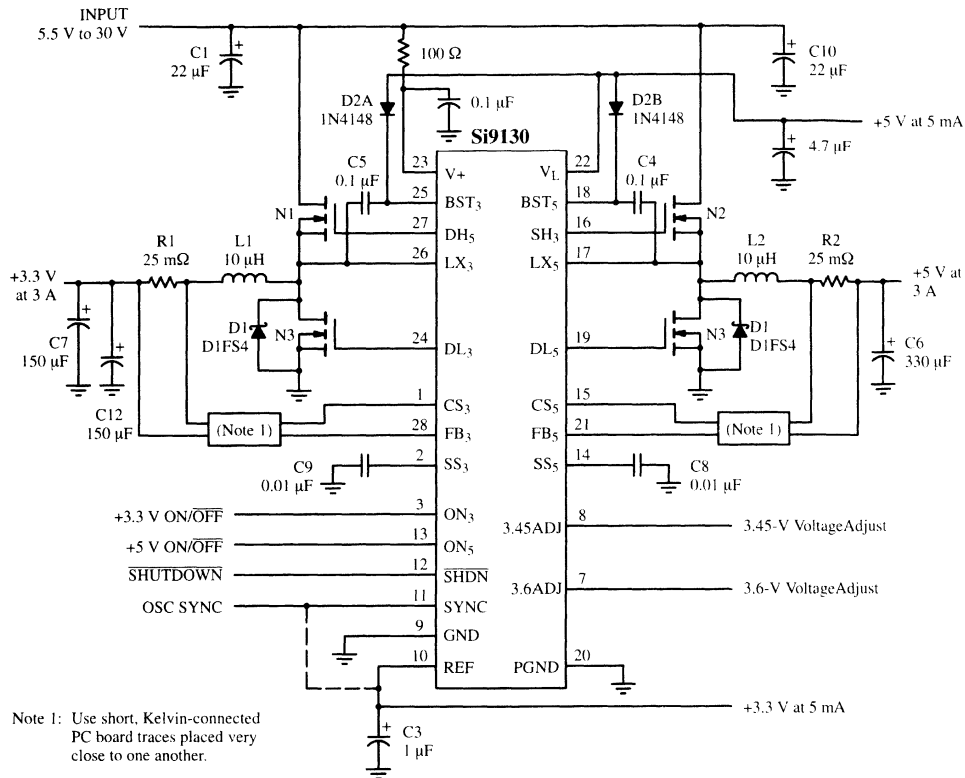
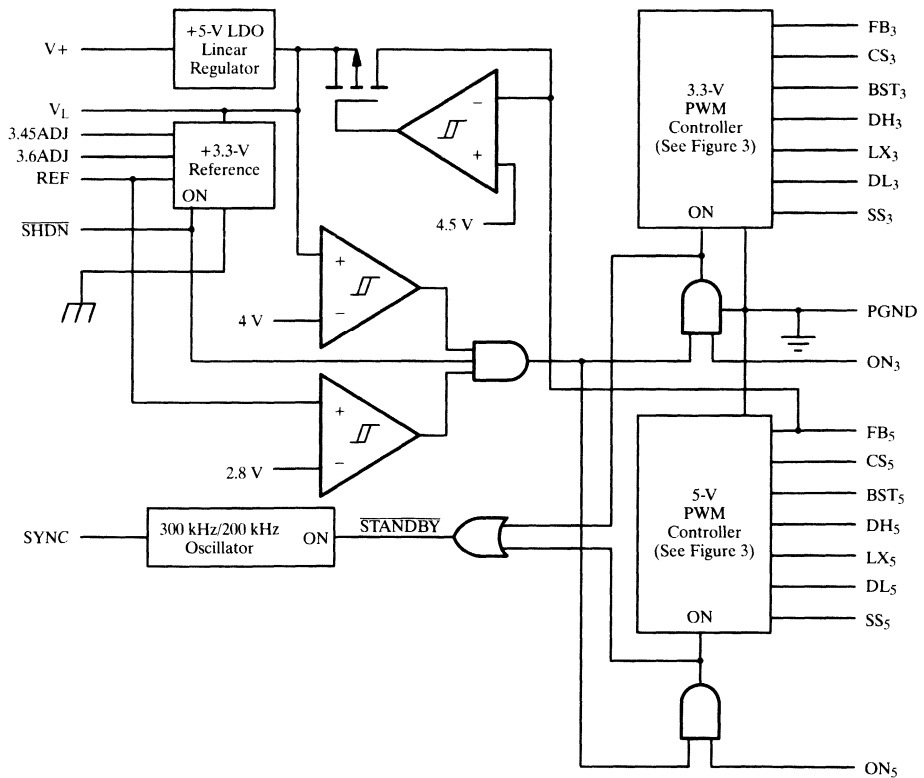

Figure 1. Si9130 Application Circuit
Figure 2. Si9130 Block Diagram
The Si9130 is a dual step-down converter, which takes a 5.5-V to 30-V input and supplies power via two PWM controllers (see Figure 1). These 5-V and 3.3-V supplies run on an optional 300-kHz or 200-kHz internal oscillator, or an external sync signal. Amount of output current is limited by external components, but can deliver greater than 6 A on either supply. As well as these two main Buck controllers, additional loads can be driven from two micropower linear regulators, one 5 V (VL) and the other 3.3 V (REF)—see Figure 2. These supplies are each rated to deliver 5 mA. If the linear regulator circuits fall out of regulation, both Buck controllers are shut down.
The 3.3-V supply is regulated by a current-mode PWM controller in conjunction with several externals: two n-channel MOSFETs, a rectifier, an inductor and output capacitors (see Figure 1). The gate drive supplied by  $DH_3$  needs to be greater than  $V_L$ , so it is provided by the bootstrap circuit consisting of a 100-nF capacitor and diode connected to  $BST_3$ .
The 5-V supply is regulated by a current-mode PWM controller which is nearly the same as the 3.3-V output. The dropout voltage across the 5-V supply, as shown in the schematic in Figure 1, is 400 mV (typ) at 2 A. If the voltage at  $V+$  falls, nearing 5 V, the 5-V supply will lower as well, until the  $V_L$  linear regulator output falls below the 4-V undervoltage lockout threshold. Below this threshold, the 5-V controller is shut off.